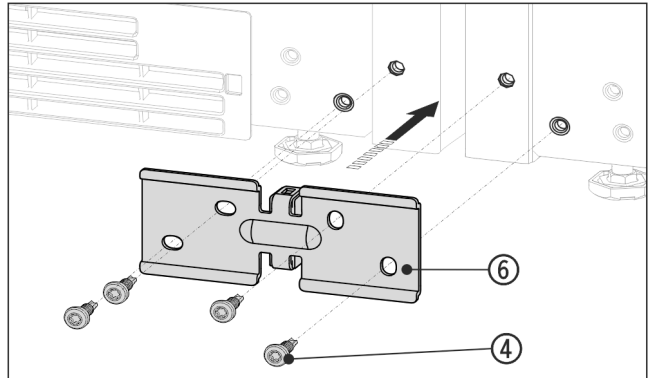

Fig. 14 Example illustration
- Slide the bracket *Fig. 14 (6)* on with the spacer between the appliances and screw in loosely with the 4 screws *Fig. 14 (4)*.